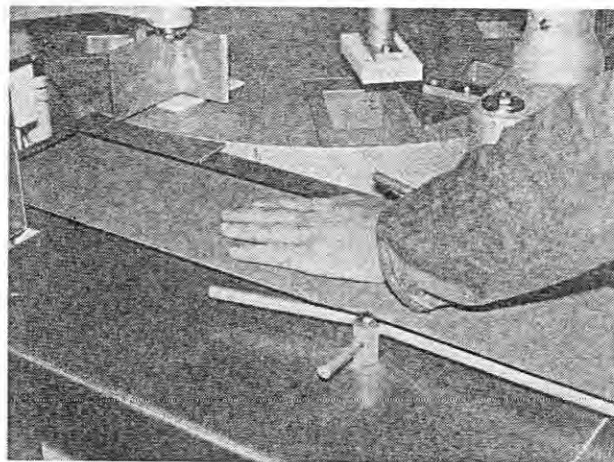

Fig. 71
1. Check the conveyor belt tension. The belt must have such a tension that it does not stop when you press your hand on it (Figure 71).